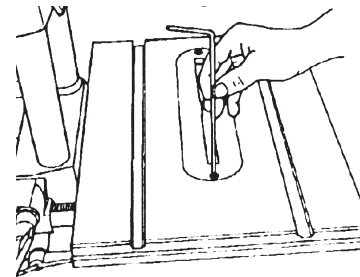

Figure 6
5. Use a 5/32" Allen Wrench to remove the Table Insert, as demonstrated in Figure 6.